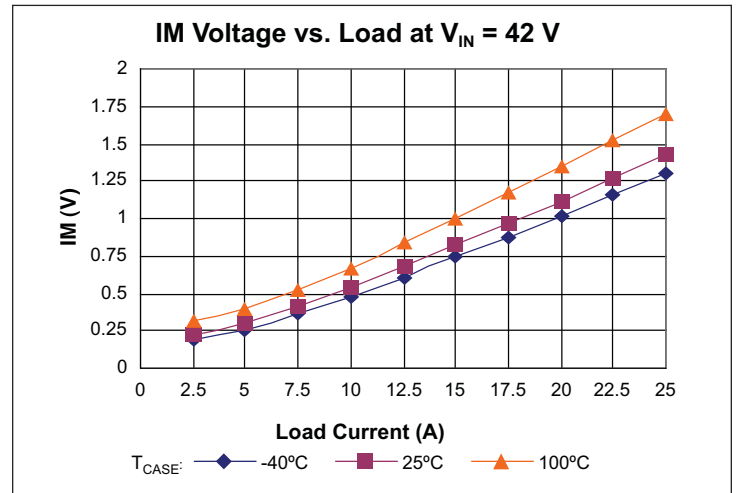

Figure 8 — IM voltage vs. load
Current Monitor (IM) pin provides a voltage proportional to the output current of the VTM module. The nominal voltage will vary between 0.2 V and 1.39 V over the output current range of the module (See Figures 8–10). The accuracy of the IM pin will be within 25% under all line and temperature conditions between 50% and 100% load.